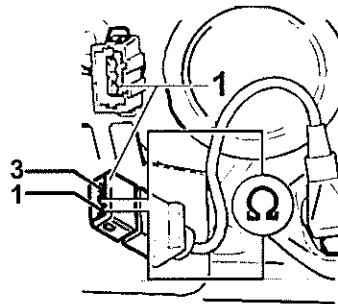

Fig 33 Engine speed sender (G28) – connector location
81.3 Undo the connector for engine speed sender (G28) located on the near-side of the engine block (see Fig 33) identified with a grey housing.